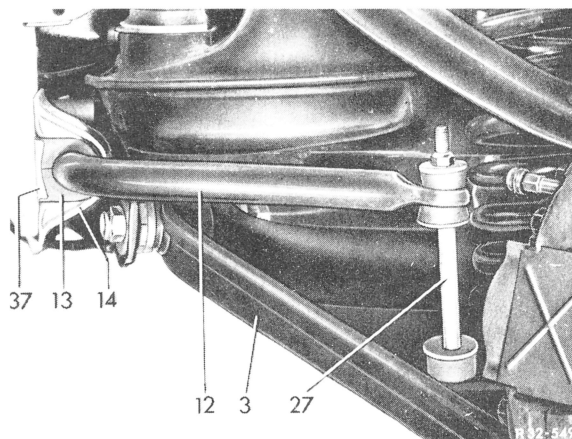

Fig. 2
- 3 Loosen connecting linkage of torsion bar (Fig. 2).